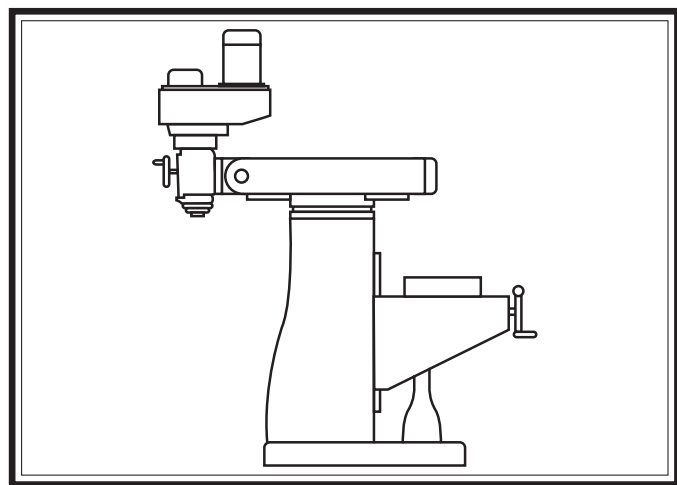

Figure 6. Ram and head position before moving.
1. Position the ram and headstock as illustrated in **Figure 6** (refer to **Ram Movement** on **Page 36** and **Headstock Movement** on **Page 32** for detailed instructions).